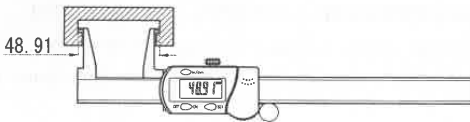

figure 2
2. Put the inside measuring face into the GROOVE (see figure2), so the value of tested outside diameter is easy-to-read.